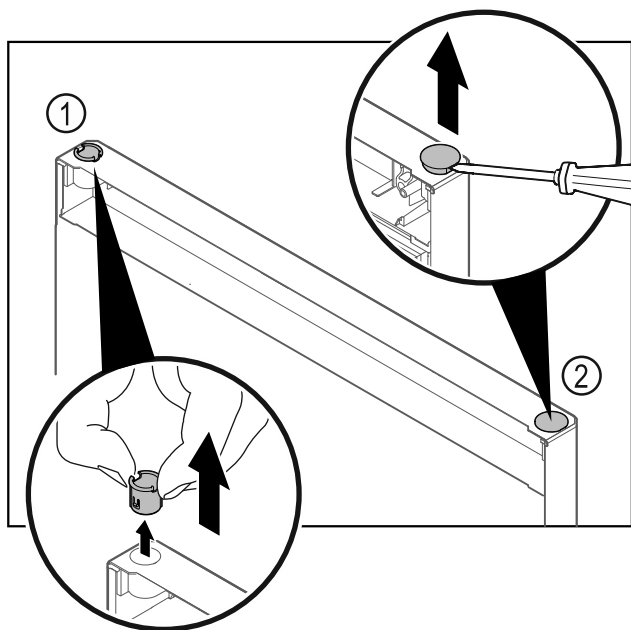

Fig. 30 Freezer compartment door
- Pull out the hinge bushing Fig. 30 (1) with your fingers.
- Carefully lift the cover plug Fig. 30 (2) with a slotted screwdriver and pull it out.